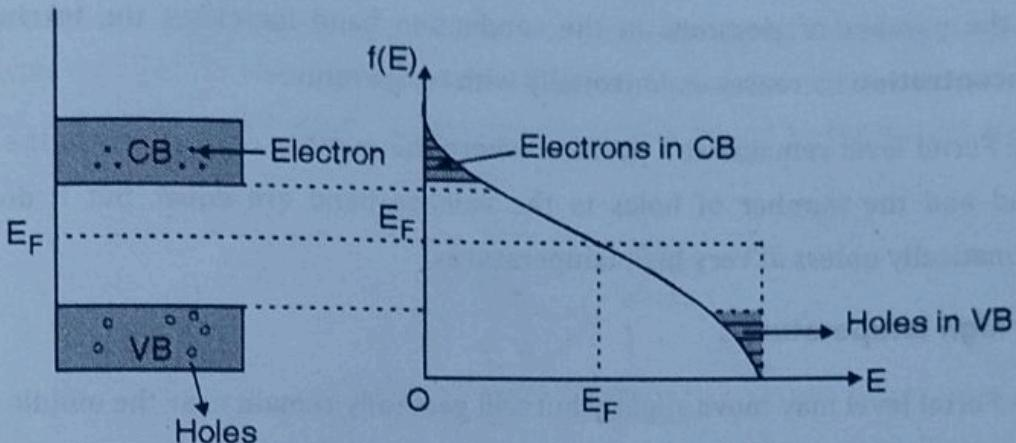

Fig. 1.1.4 : Fermi-Dirac distribution of semi conductor at $T > 0^\circ \text{ K}$
- At normal temperature, a significant number of electrons are excited to conduction band (CB) and from Valence band (VB) leaving behind same number of holes.
- Therefore $f(E)$ has non-zero probability above Fermi level and $f(E)$ reduces by same amount below E_F as shown in Fig. 1.1.4.